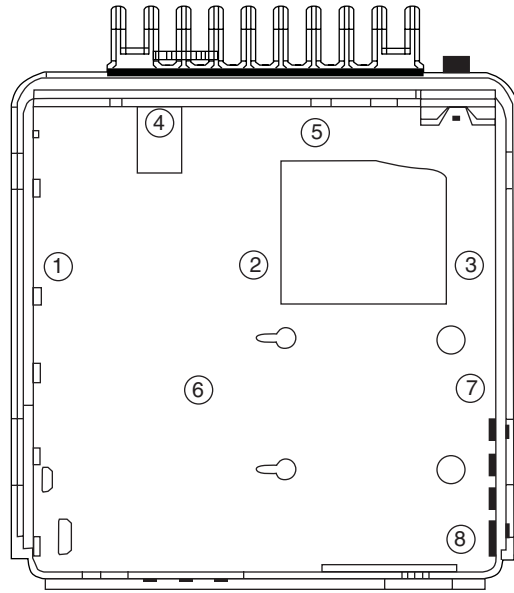

Figure 29. VRS750 Torque Sequence
4. Insert the main board carefully at an appropriate angle (approximately 30°) into the chassis. Start, but do not torque down, screw number 6 per Figure 29 and Table 8.
6. Attach the nylon washer to the regulator at screw hole number 4 as indicated in Figure 29.
7. Install the screws with 6-8 in-lbs of torque using a T-10 Torx driver per sequence shown in Figure 29 and Table 8.